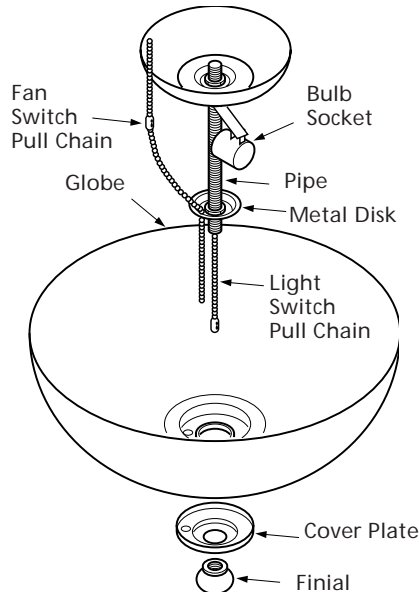

Figure 8g - Aurora Fixtures
**Note:** Sub-step 1 applies to all light fixtures. Sub-steps 2-7 apply to Tiffany and Aurora light fixtures. Refer to Figures 8g.